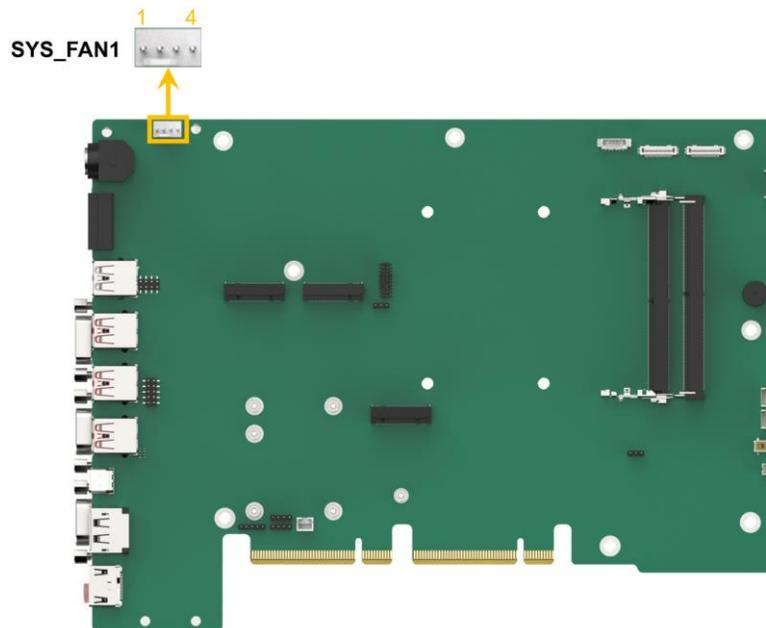

Figure 4-5: System Fan Connector Location
- CN Location:** See **Figure 4-5**